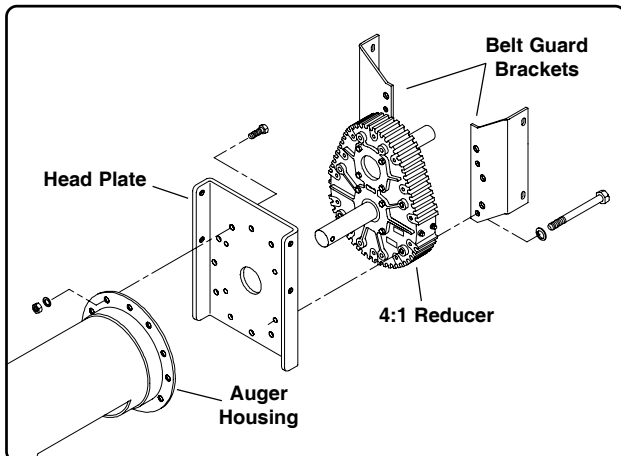

FIG. 10
1. Fasten the head plate to the flange ring on the end of the auger housing. Secure using twelve (12) 3/8" x 1" bolts, lock washers and non-lock nuts. (position the head plate as shown in Fig. 10).